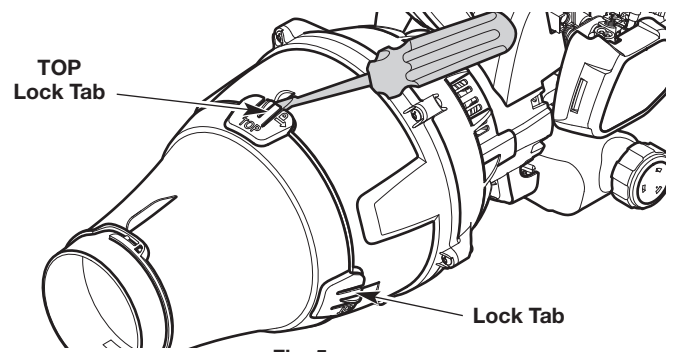

Fig. 5
1. While holding the upper blower tube firmly, carefully insert a flat-head screwdriver under the TOP lock tab (Fig. 5).
2. Gently twist the screwdriver to lift the lock tab away from the blower outlet. Repeat this step with a second lock tab (Fig. 5).